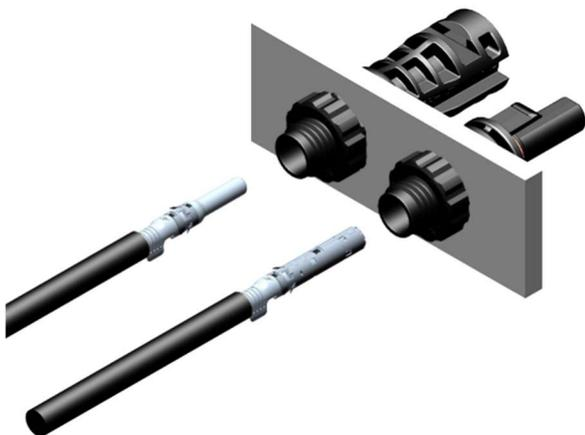

Figure 18
- ✧ 压接好的插针/插套插入到公端面板连接器/母端面板连接器内，直至其啮合（如图 18）。轻轻拉动导线，检查金属件是否啮合牢固（如图 19）。
Insert the crimped male or female terminals into corresponding male or female panel connectors separately until they engaged (Fig.18). Pull lightly on the lead to check that the metal part has engaged (Fig. 19).